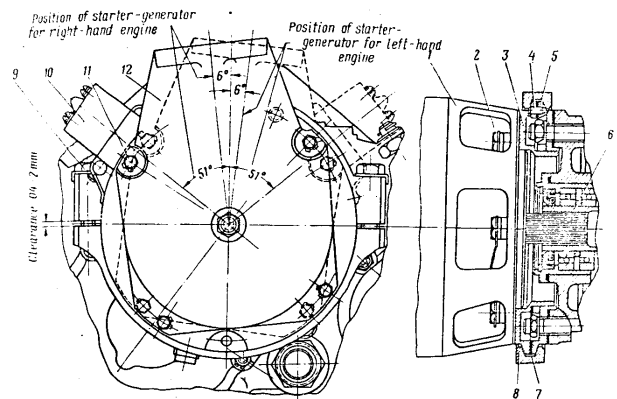

Fig.26. Attachment of Starter-Generator TGP-CT-6000A
Starter-generator ICP-CT-6000A should be replaced as follows (Fig.26):
8. Install the starter-generator air scoop in the required position, depending on arrangement of the engine on the aircraft (See Fig.26).